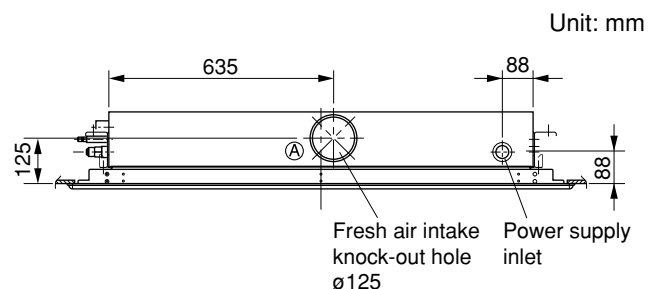

Fig. 3-22
- (5) If the system requires fresh air to be drawn into the unit, cut and remove the insulation (both externally and internally) at the location shown as (A) in Fig. 3-22.